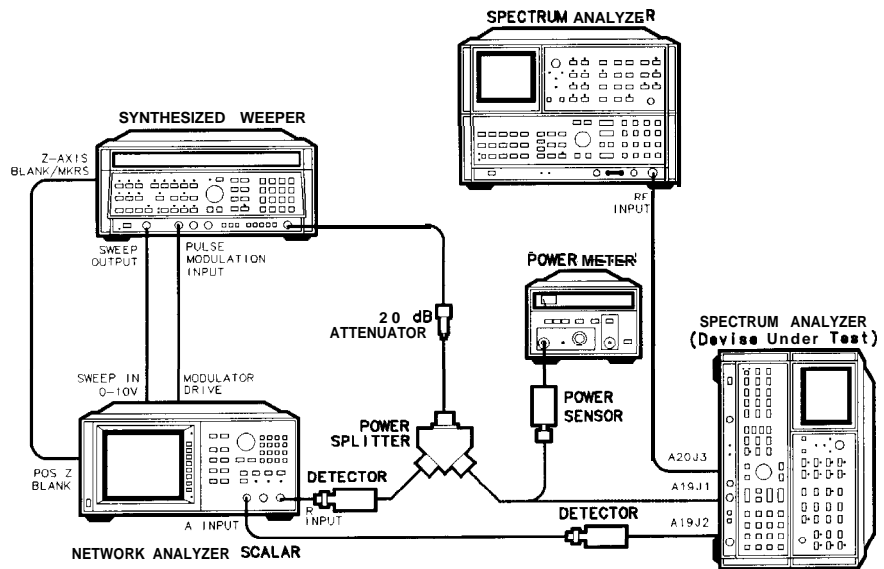
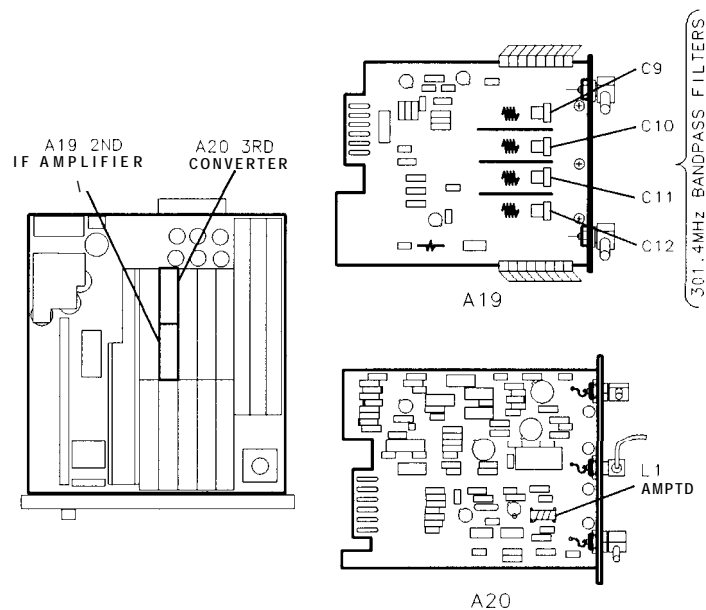
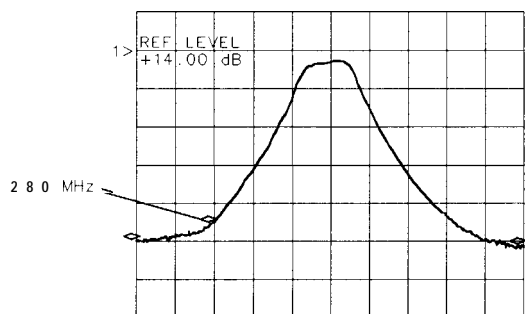

Figure 3-63. Second IF Amplifier Adjustments Setup
Figure 3-64.
Figure 3-66. Minimum Image Response at 258.4 MHz
1. Position instrument on right side as shown in Figure 3-63, with bottom cover removed.
3. Connect 20 dB Attenuator and power splitter to RF OUTPUT of synthesized sweeper. Connect one arm of power splitter to R input of scalar network analyzer through Detector. See Figure 3-63.
7. Disconnect Power Meter and connect power splitter output to A19J1, using adapter and a BNC to SMB test cable. Refer to Figure 3-64.
9. Connect synthesized sweeper SWEEP OUTPUT (rear panel), Z-AXIS BLANK/MKRS (rear panel), and PULSE MODULATION INPUT to proper rear-panel connectors on scalar network Analyzer, as shown in Figure 3-63.
12. On synthesized sweeper, press **PULSE**, (ON) **MKR SWEEP**, and **ΔF**. Set **SWEEP TIME** to 500 ms.
13. Adjust A19 301.4 MHz Bandpass Filter, A19C9 through C12, for the best bandpass filter response with a gain of $> + 14$ dBm but $< + 17$ dBm. See Figure 3-64 for the location of the bandpass adjustments.
22. Adjust A19C12 for minimum amplitude response at 258.4 MHz. Refer to Figure 3-64 for the location of the bandpass adjustments. Refer to Figure 3-66 for the typical response when the bandpass filter is properly adjusted.